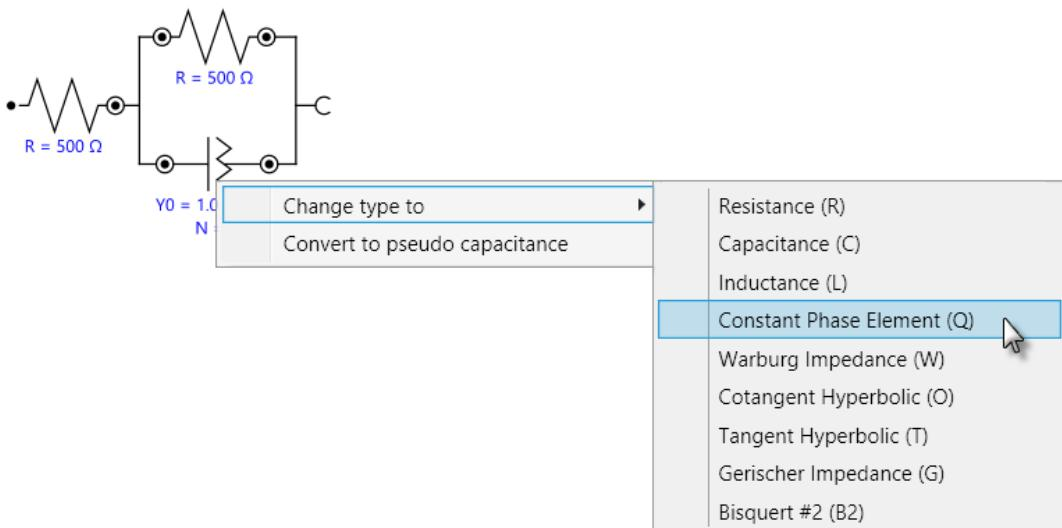

Figure 127 – Right-clicking a circuit element displays a context menu which can be used to change the circuit element
- **Change element type:** right-clicking a circuit element displays a context menu which can be used to change the equivalent circuit element from one type to another (see Figure 127).